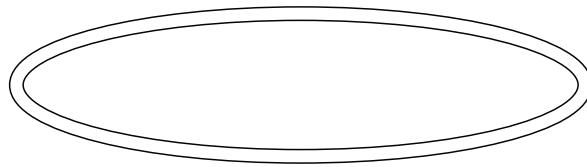
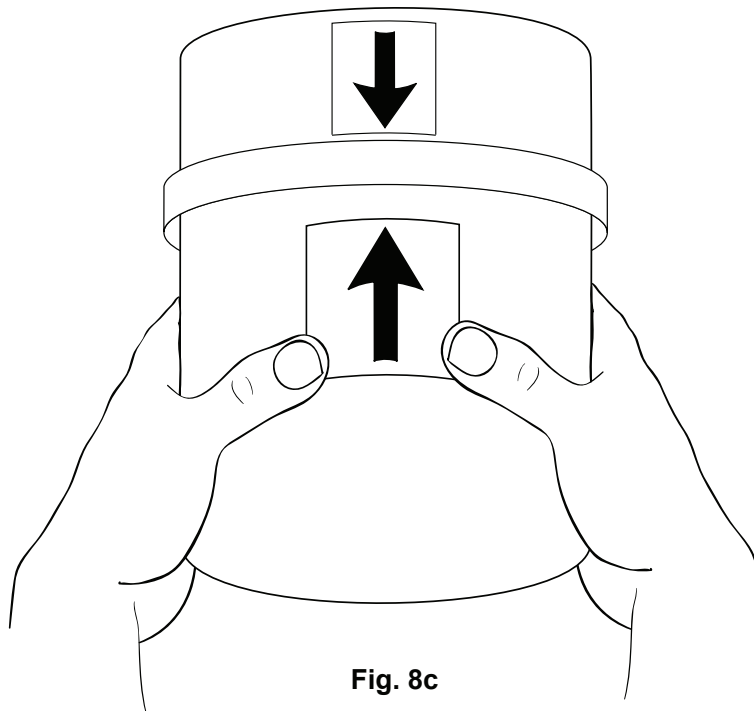

Fig. 8b
Fig. 8c
8.7 Once completed, reinstall the o-ring gasket around the bottom tank collar. Please see Fig. 8b. Align the two arrows located at the front of the tank and the fixed part while lifting the tank in place. Please see Fig. 8c. Apply even pressure to secure the tank properly in the tank cover. Then close the latch holding the tank in position. The clamp should close with minimal pressure. Verify that the o-ring gasket and tank are seated properly by checking for leaks when re-starting the humidifier.